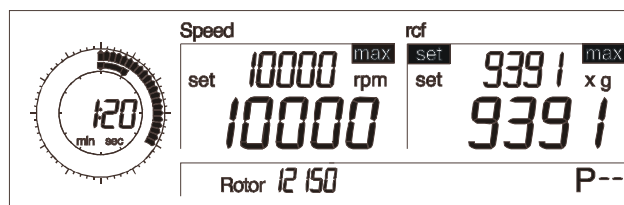

Fig. 5.15:
- Turn the left rotary knob until "set" appears in front of the parameter "rcf" on the display (Fig. 5.15).